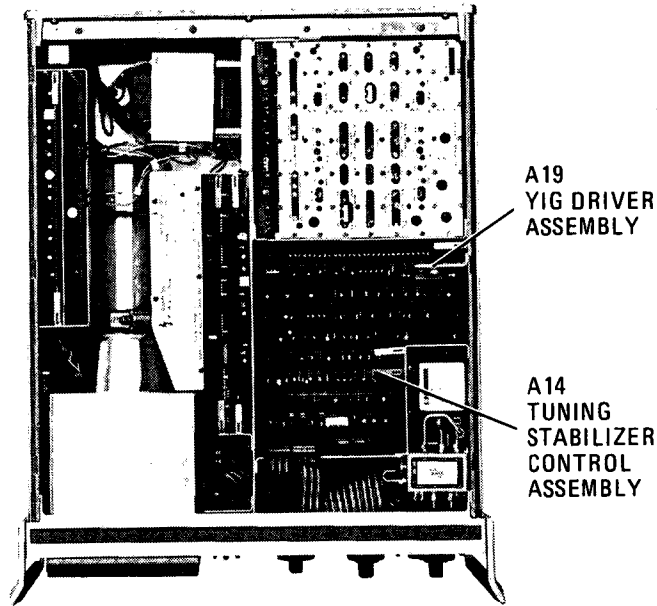

Figure 5-30. YIG Driver Adjustment Locations
6. Adjust A19R5 YTO OFFSET (Figure 5-30) for a frequency counter reading of 2.050 ± 0.0002 GHz.